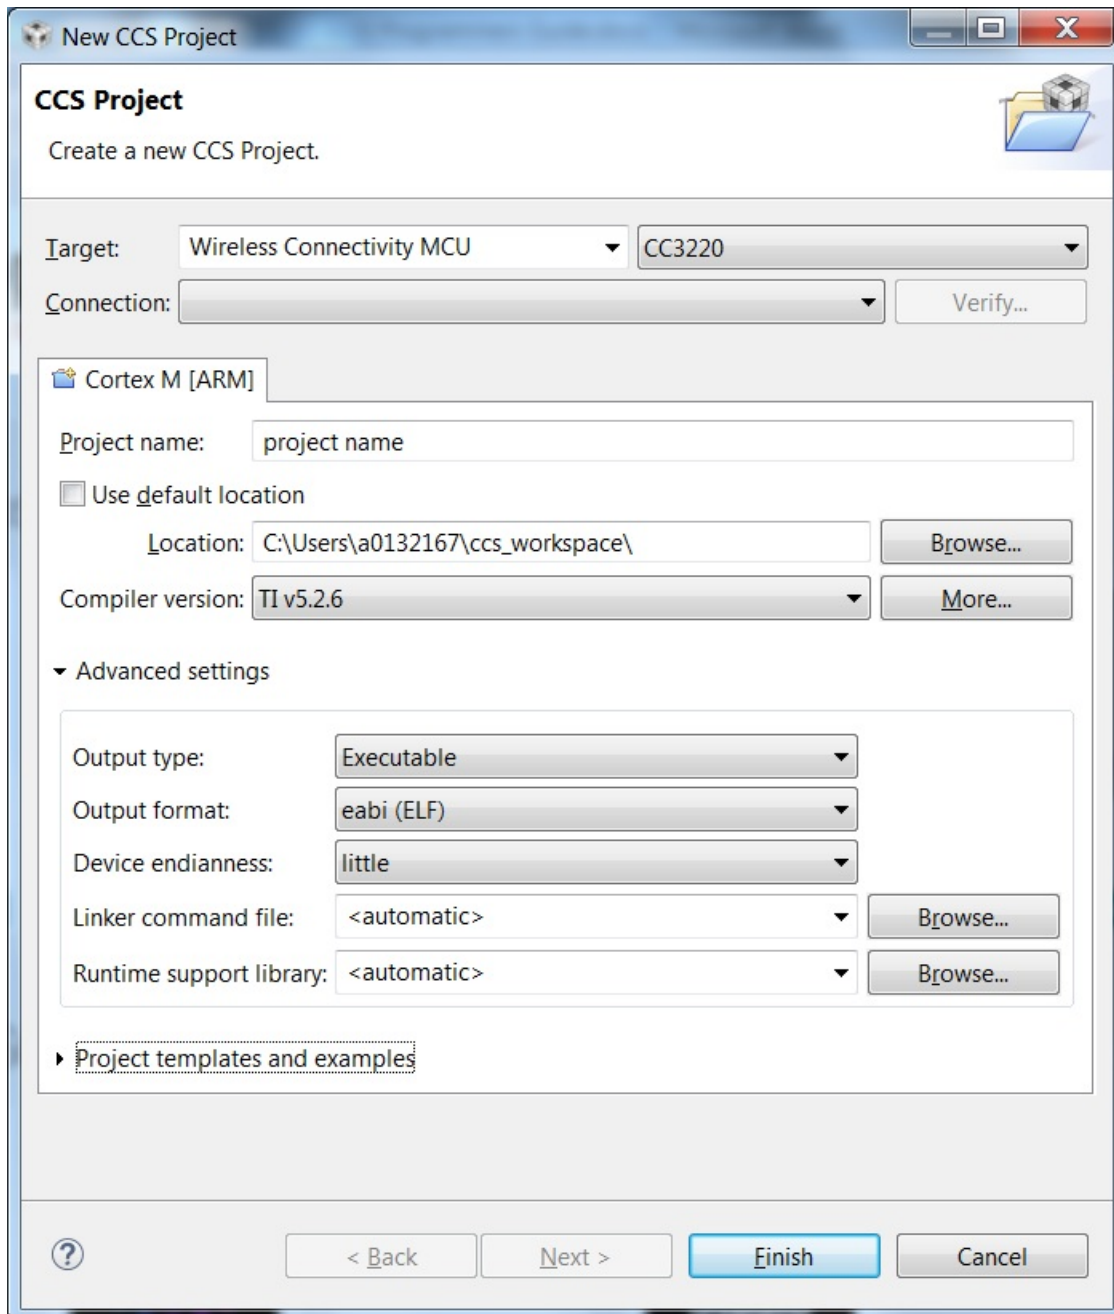

Figure 5-12. CCS Project Settings
3. Specify the project name (wlan_station in used for demonstration), and choose a location to create the project, as shown in Figure 5-12.